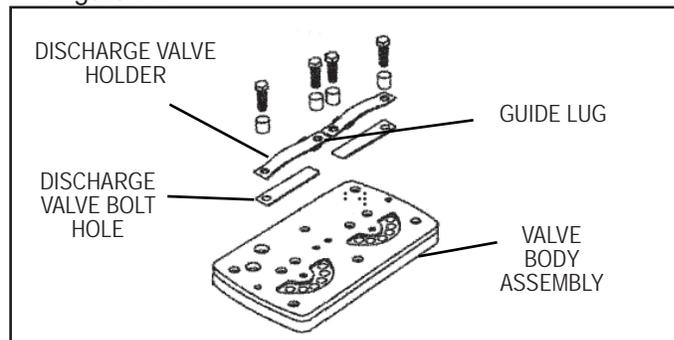

FIGURE 11 - DISCHARGE VALVE INSTALLATION
1. Locate and place one of the two discharge valves (12) on the valve body assembly with its bolt hole corresponding with the threaded hole on the outside edge of the valve body assembly. When correctly placed, the discharge valve (12) will cover the two discharge holes in the valve body assembly. Refer to Figure 11.
2. Locate one of the two discharge valve holders (11) and install it over the discharge valve (12) so that the free end of the discharge valve (12) is contained between the two guide lugs on the sides of the holder. Refer to Figure 11.
3. Insert one of the four 10mm x 25mm bolts (9) through a spacer sleeve (10). Using the bolt and sleeve, loosely secure one end of the discharge valve (12) and holder (11) to the valve body assembly. Insert a second 10mm x 25mm bolt (9) through a spacer sleeve (10) and loosely secure the other end of the discharge valve (12) and holder (11) to the valve body assembly.
4. Locate one of the sliding inlet valves (13) and place it on a flat surface. Note that there is a concave and convex side in the surface where the small pivot arm stud hole is located. Refer to Figure 11.
5. Place the metal gasket (18) on the cylinder block, **red side toward the cylinder block**, while aligning the cylinder head bolt holes.
6. Install the sliding inlet valves (13) on the pivot arm stud, concave side toward the cylinder block. Make certain to center the inlet valves within their openings in the metal gasket (18).